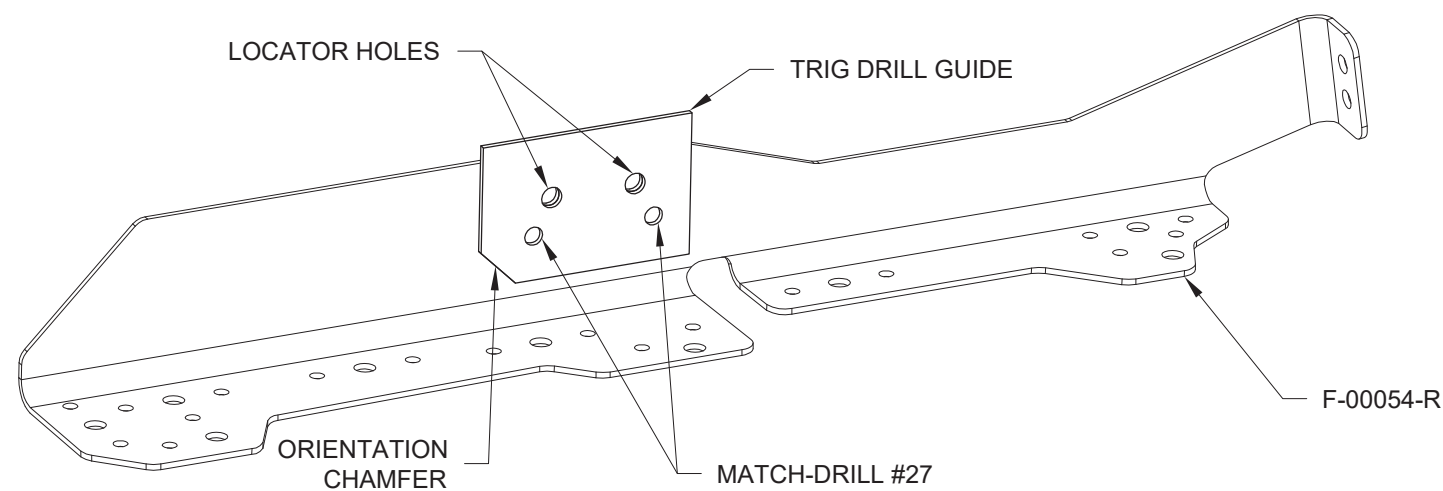

FIGURE 2: MATCH-DRILLING F-00054-R & -L
Step 2: Being mindful of the orientation chamfer, locate the Trig Drill Guide on the F-00054-L and F-00054-R with temporary fasteners as shown in Figure 2.
Step 3: Match-drill #27 the two holes from the Trig Drill Guide into the F-00054-L and F-00054-R as shown in Figure 2. Remove and discard the Trig Drill Guide when finished.